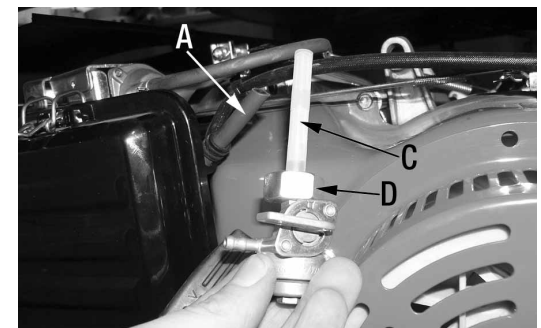

Figure 16
- 1) Once the tank and carburetor are drained of all gasoline, disconnect the fuel hose (A) Fig.16 from the fuel shut-off valve and then dismantle the fuel shut-off valve nut (B) from the tank.
- 2) Remove the fuel shut-off valve from the tank to expose the fuel filter (C). Clean the fuel filter.